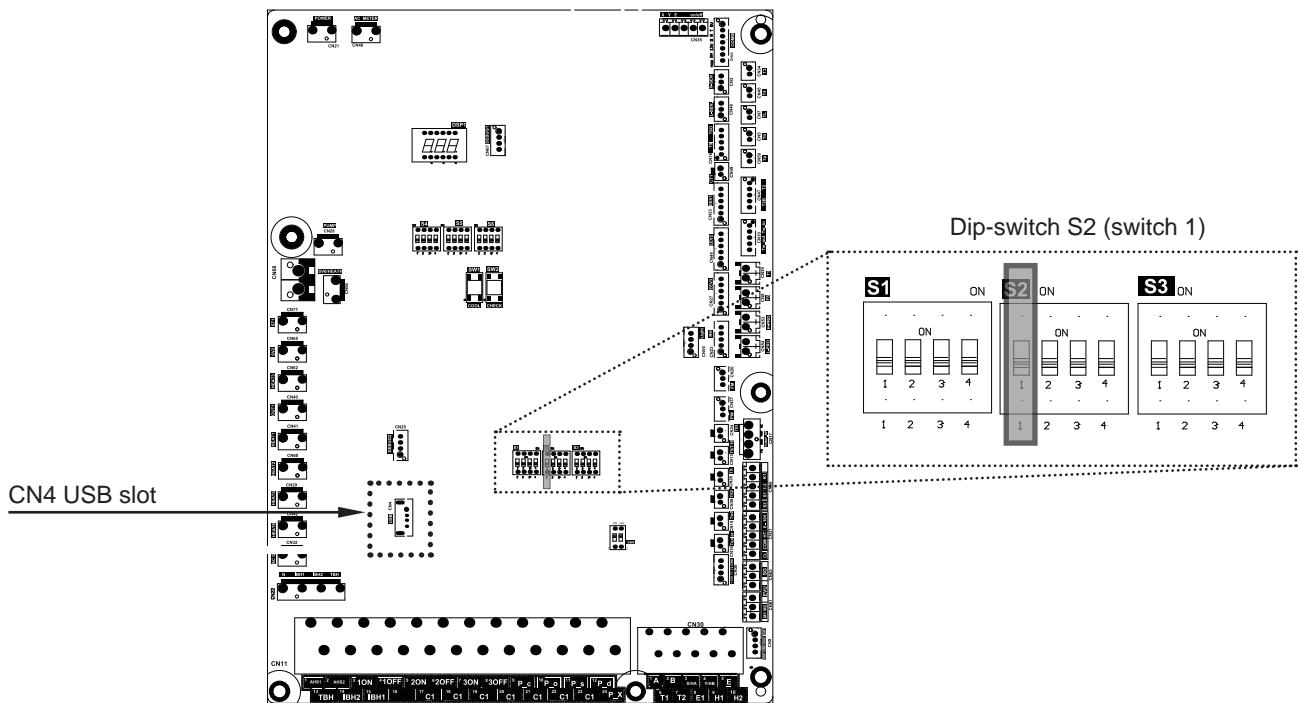

Figure 55. Outdoor PCB
3. **Make sure that DIP switch S2 (switch 1) is set to the ON position, see Figure 55.**
3. **Make sure that DIP switch S2 (switch 1) is set to the OFF position, see Figure 55.**
2. On the Outdoor PCB (Figure 55) insert the USB stick (provided) into the slot marked CN4 USB.